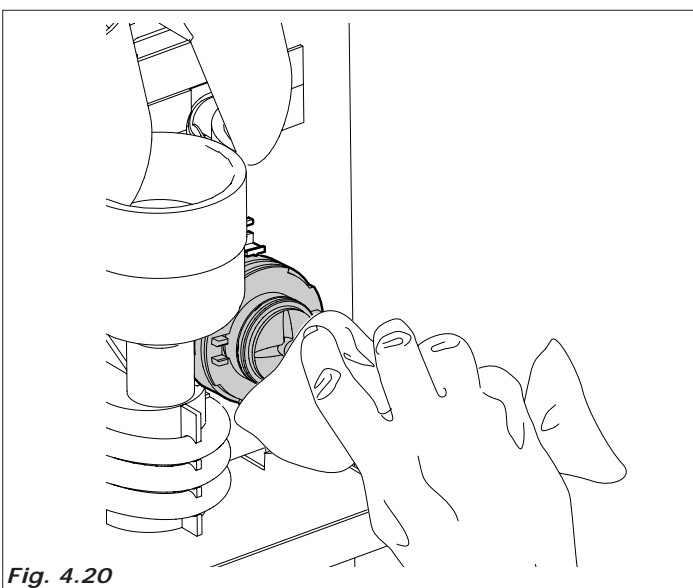

Fig. 4.20
- with a cloth soaked with the solution clean the whipper assembly base (Fig.4.20)